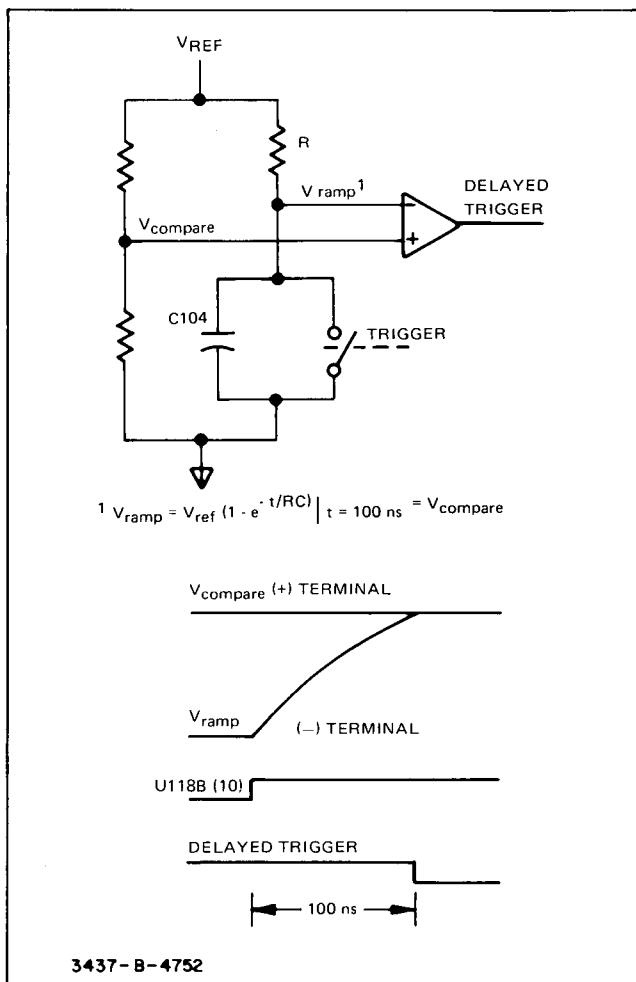

Figure 4-16. NRDGS = 1 and Delay = 100 ns.
**4-66. Ramp Comparator.** The interpolated interval of 100 ns is determined by the time required for an RC network to charge to a comparison voltage. A comparator senses when the RC network voltage ( $V_{ramp}$ ) begins to exceed the comparison voltage ( $V_{compare}$ ) and outputs a negative transition that results in a delayed trigger output. Figure 4-16 illustrates the case where NRDGS = 1 and the specified delay = 100 ns.